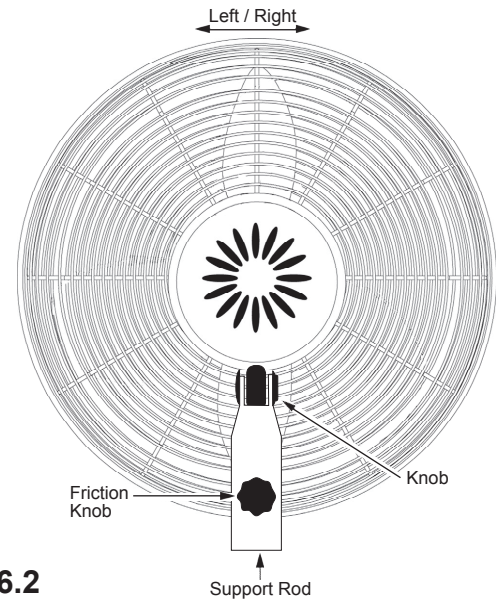

Figure 6.2
1. To adjust the rotation speed, loosen the Friction Knob and turn the Fan Head to the desired angle, left or right. Re-tighten the Friction Knob.(Fig.6.2)